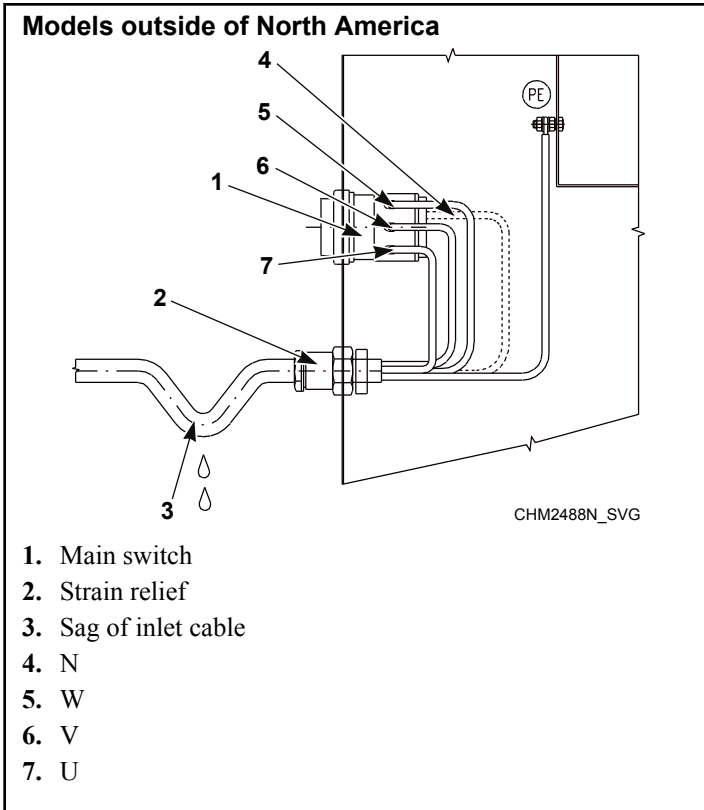
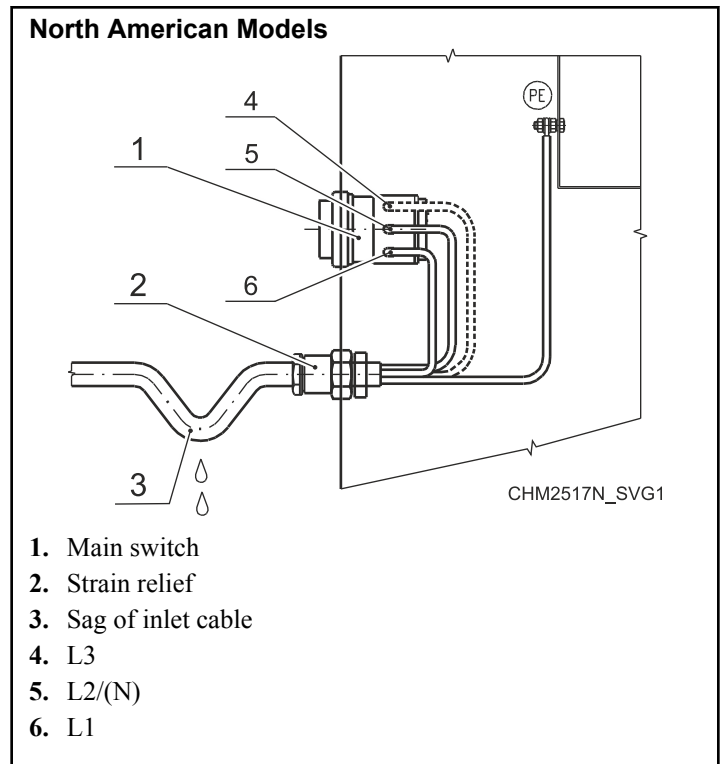

Figure 26
Figure 27
3. With stranded conductors, use wire end tubes with an insulated sleeve (6) for L1/U, (L2/V), (L3/W), (N) conductors. Make sure there is no accidental contact, since the supply cable stays under voltage even when the main switch is off.
5. Connect the supply cable conductors to the incoming terminals (main switch [1]), marked with L1/U, (L2/V), (L3/W), (N) and the terminal marked with PE. Refer to *Figure 26* or *Figure 27*.
6. Provide a sag in the cable, in front of the strain relief. This will prevent condensed water from dripping into the machine. Refer to *Figure 26* or *Figure 27*.